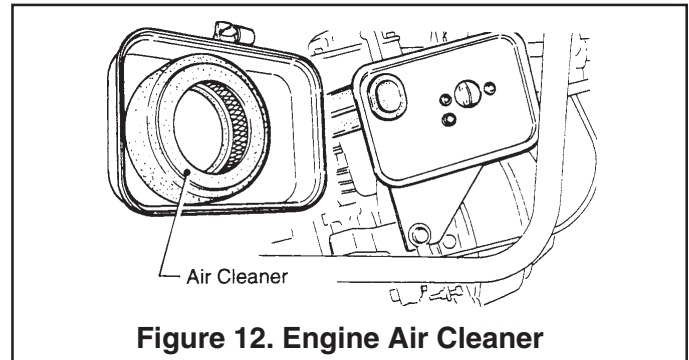

Figure 12. Engine Air Cleaner
- The air cleaner (Figure 12) on the engine side will hardly be contaminated, if it is, however after cleaning the element with kerosene, dip it in mixed oil consisting of 3 parts of gasoline and 1 part of engine oil. Then tightly squeeze outer primary element (sponge) and shake off well the inner secondary element before installing them.